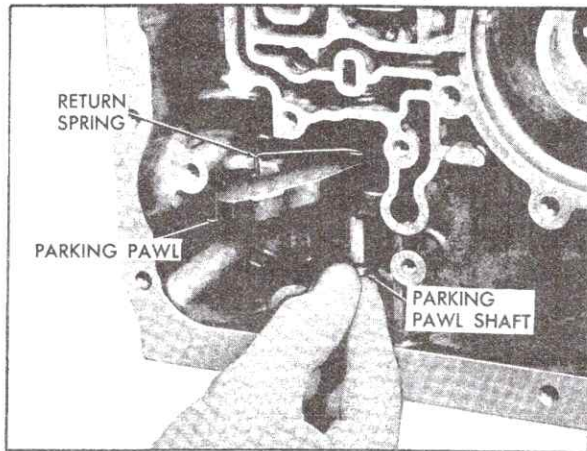

Fig. 7-197 Installing Parking Pawl
a. Install parking pawl (tooth toward inside of case), pawl return spring and parking pawl shaft into case, Fig. 7-197.